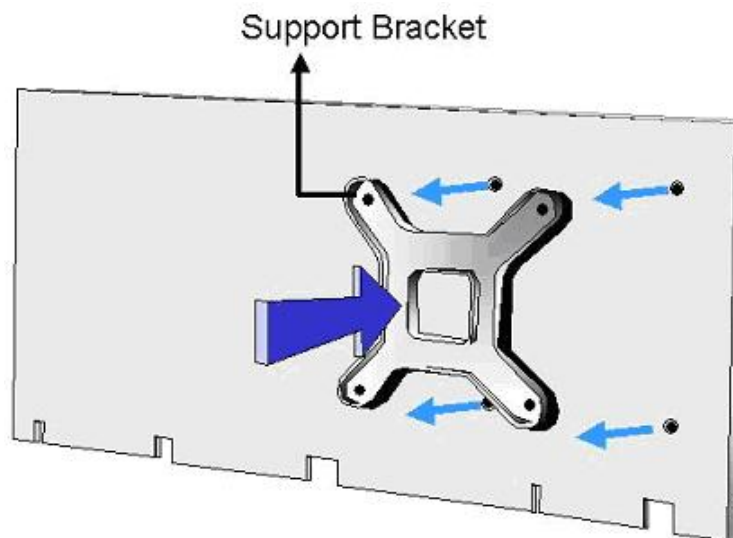

Figure 4-4: Securing the Cooling Kit
- Step 3: Secure the cooling kit.** From the solder side of the PCB, align the support bracket to the screw threads on heat sink that were inserted through the PCB holes. (See **Figure 4-4**)